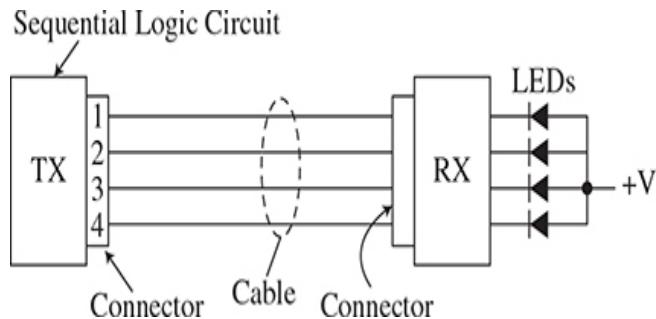

Figure 11.24 Simplified block diagram of the cable tester project.
1. The inputs are logic signals applied to the connector that travel down the cable to the other connector. There is one signal per wire (4). Outputs are LEDs that signal which wire/pin is open or which two wires/pins are shorted. Figure 11.24 shows the diagram. The test pulses are developed in the transmitter (TX), and they are sent down the cable to the inputs to the receiver (RX). The LEDs indicate the wire status.